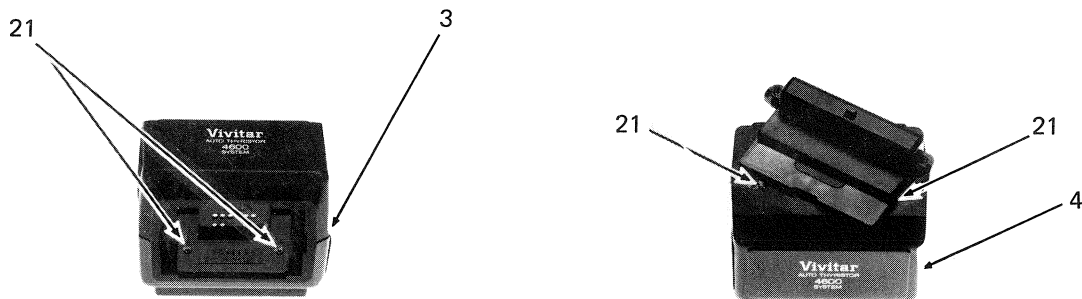

Figure 2-2. Separation of Body Cases MC and MD
- B. Remove two screws (21) at the bottom of main body. Remove two screws (21) on the main body (Body case MD side). Separate body case MC (3) from body case MD (4). (Figure 2-2)